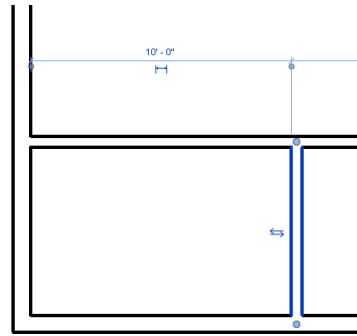

Figure 3-64 The adjusted inner wall distance
4. Now, click on the temporary dimension, enter the value **10'(3048 mm)** and then, press ENTER; the interior wall is moved to the desired distance 10'-0" from the interior face of the exterior wall, as shown in Figure 3-64.